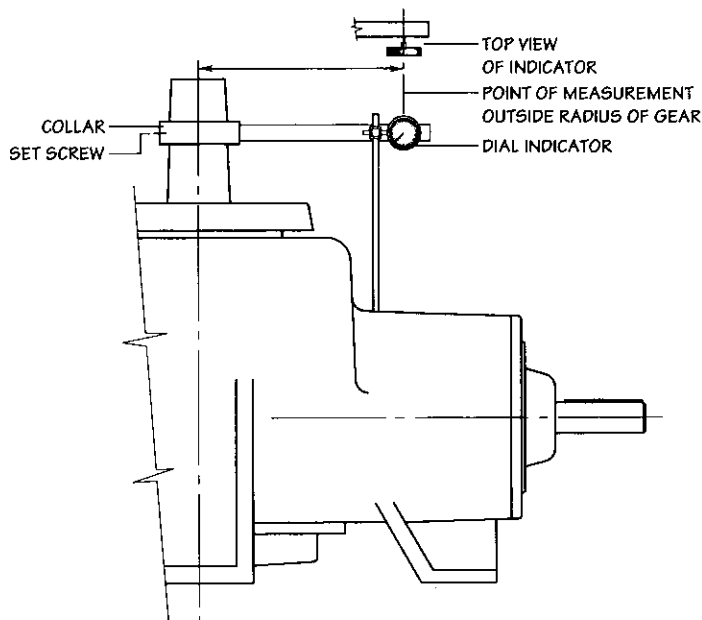

Figure 5 Gear Backlash Measurement
- With the "X" marked tooth on the pinion gear engaged between the two "X" marked teeth on the ring gear, check the backlash with a dial indicator as shown in **Figure 5**. Lock the pinion shaft against rotation. The amount of movement of the fan shaft, measured at a distance equal to the outside radius of the ring gear is the backlash. Obtain backlash setting by adjusting ring gear axially by removing or adding shims (420) at bottom bearing cap.